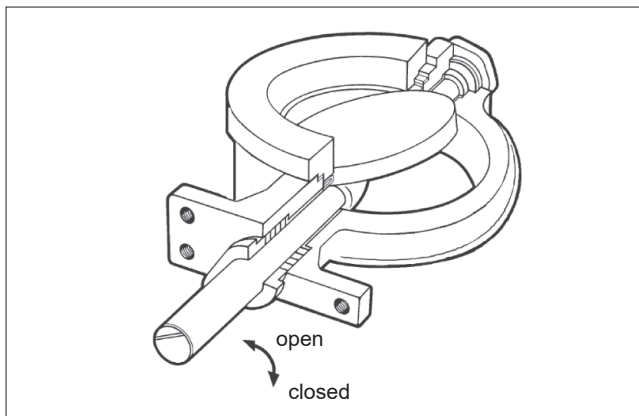

Fig. 11 Open and closed positions of the valve
- Unfasten the nuts (43) and remove the disc spring sets (21), the retaining plates (24) and the gland (9).
- Remove old packing rings (22). Do not damage the surfaces of the packing ring counterbore and shaft. It is not necessary to change anti-extrusion ring (23).
- Install the retainer plates, one on top of another on the stud and the opposite another way around (Figure 11). Once the retainer plates are in the right place, install the other stud.
The marking line parallel to the disc on the valve shaft head shows roughly the closed position of the disc (see Fig. 11). Pressure shocks can cause loosening of the pin connection between disc and shaft; consequently the shaft moves while the disc remains in place and this prevents full closing of the disc. If the reason for the leakage does not become apparent after doing the above, the valve must be disassembled for replacing the parts.
- Check the position between the seat ring and the disc. The valve closes clockwise (see Fig. 11).
- Press the shafts into the disc drillings. Align the pin holes. The shaft (5) position against the disc must be according to Figure 11.
- Install the gasket (31) and the blind flange (8). Screws of the blind flange must be tightened evenly. An unevenly tightened flange will damage the gasket.
- Install the body gasket (32) and the clamp ring (2). See details in Section 5.5.
- Check the contact line between the seat ring and the disc (see Fig. 11.)